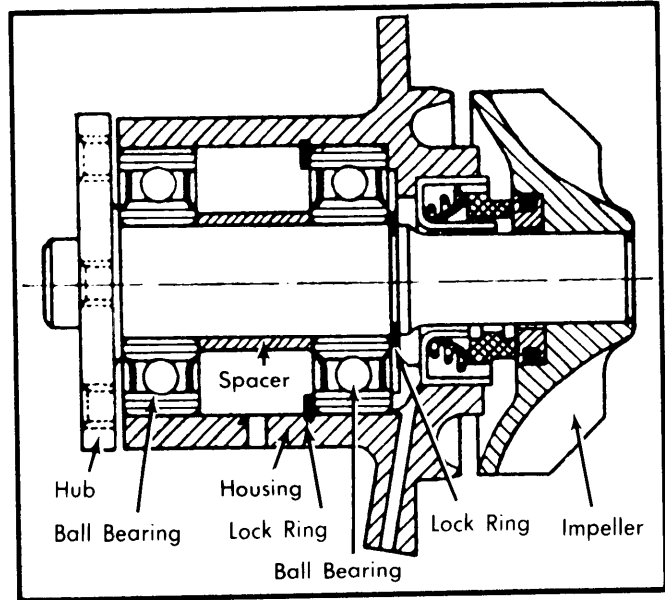

Fig. 15 Sectional View of Water Pump
3) Water pump is a maintenance free type. When installing pump, check hub-to-flange and impeller-to-flange distance. See Fig. 15.